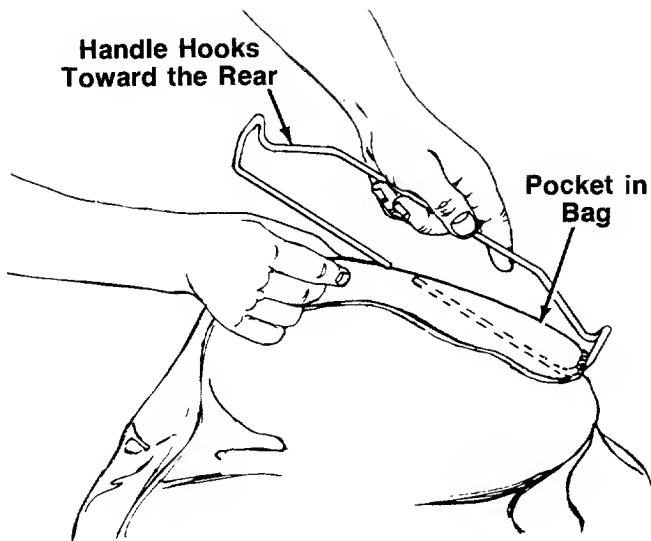

FIGURE 11.
3. Attach the rear handle to bag by inserting one side of handle into pocket on the rear of the bag. The handle should hook toward the rear of the bag as shown in figure 11. Thread all the material onto one side, then slide it over onto the other side. See figure 11.